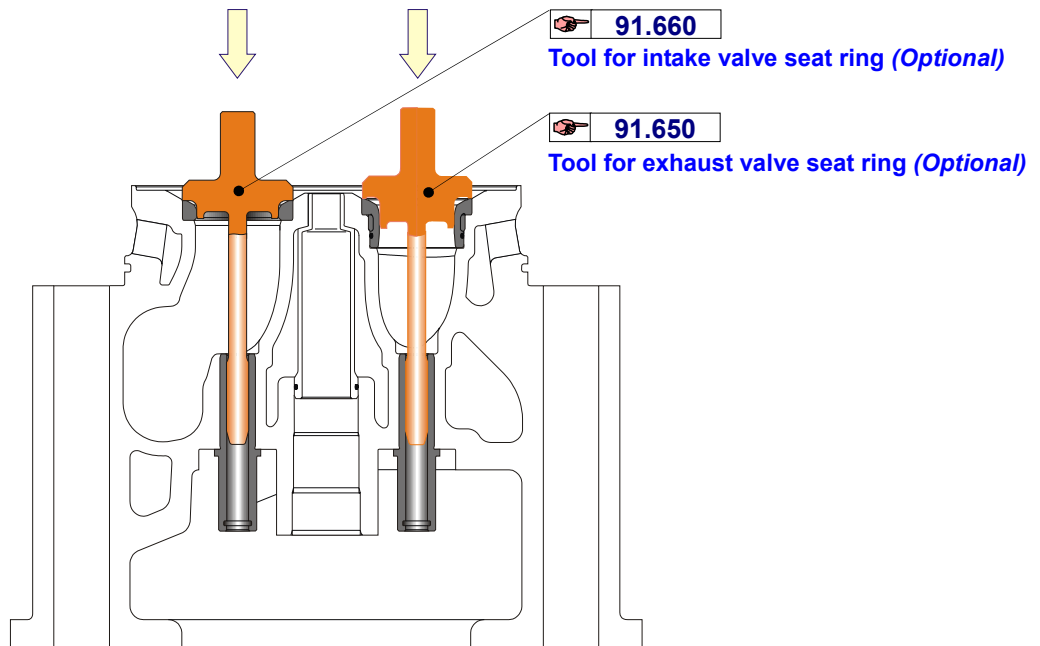

Fig. 2 Mounting of intake and exhaust valve seat rings (흡기 및 배기 밸브 시트 링의 조립)
3. Fit the seat ring into the cylinder head by cooling or by pressing as shown in fig 2.
- Fit the seat ring by pressing or hammering on the tool as shown in fig 2.